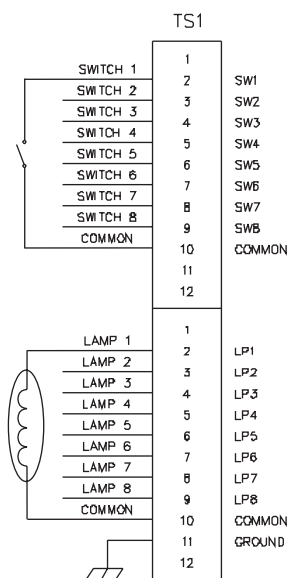
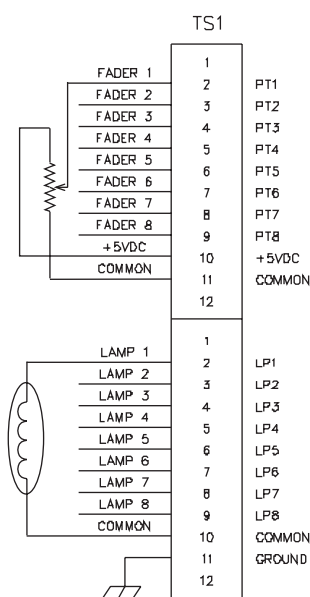

Figure 62: Wiring switches
Figure 63: Wiring faders
2. Terminate control wires onto the terminal block, labeled TS1, as indicated in Figure 63 and Figure 62. Be sure to tighten screws firmly onto each wire.